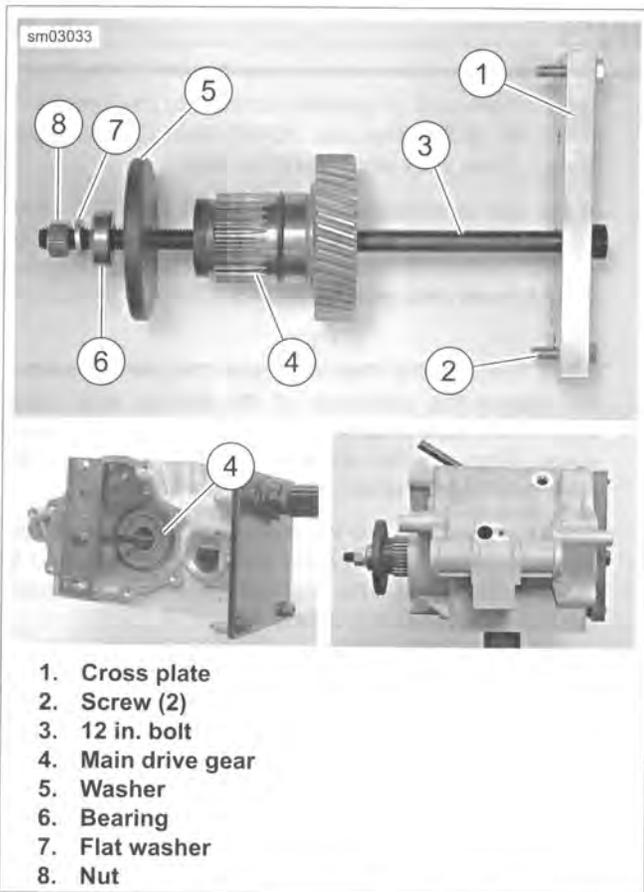

Figure 6-37. Removing Main Drive Gear
5. See Figure 6-37. Place CROSS PLATE (Part No. HD-35316-3A) (1) on right side of transmission case as shown, and secure with two screws (2). Position cross plate so that large bolt hole in cross plate is lined up with center of main drive gear (4).
6. Apply a light coat of graphite lubricant to the threads of the 12 IN. BOLT (Part No. HD-35316-5) (3) and insert through cross plate and main drive gear.
7. At left side of transmission case, place WASHER (Part No. HD-35316-7), BEARING (Part No. RS-25100-200) (6), flat washer (7) and nut (8) over end of bolt. Tighten nut until main drive gear is free.